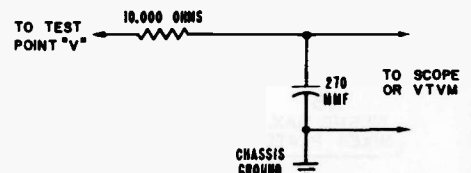

Figure 11. Decoupling Filter.
(b) Be sure that a decoupling network is used at the video detector output and that the leads on the network are kept as short as possible; see figure 11.
- Connect VTVM high side to test point "V" through a decoupling filter, common to chassis. See figures 11 through 14. Use lowest DC scale on VTVM.
- Connect VTVM high side to test point "V" through a decoupling filter, common to chassis. See figures 11 and 24. Use lowest DC scale on VTVM.